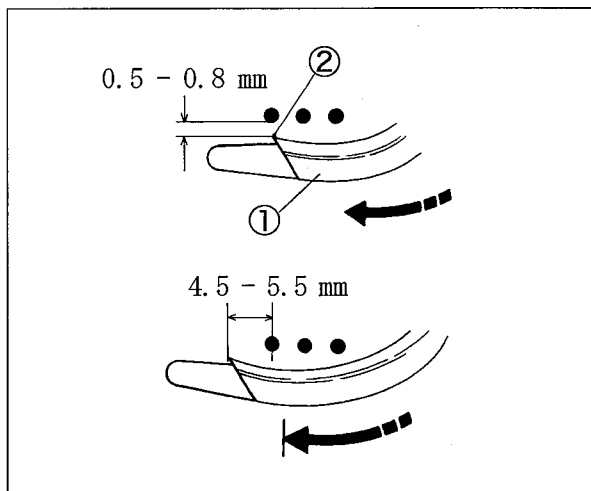

Fig. 43
- (2) Make the clearance between the left needle and the hook ② of the spreader ① to 0.5 - 0.8 mm. (Fig. 43)
- (3) Make the clearance between the center of the left needle and the hook ② to 4.5 - 5.5 mm when the spreader ① is at the extreme left. Then tighten the screw ④ securely. (Figs. 43 and 45)